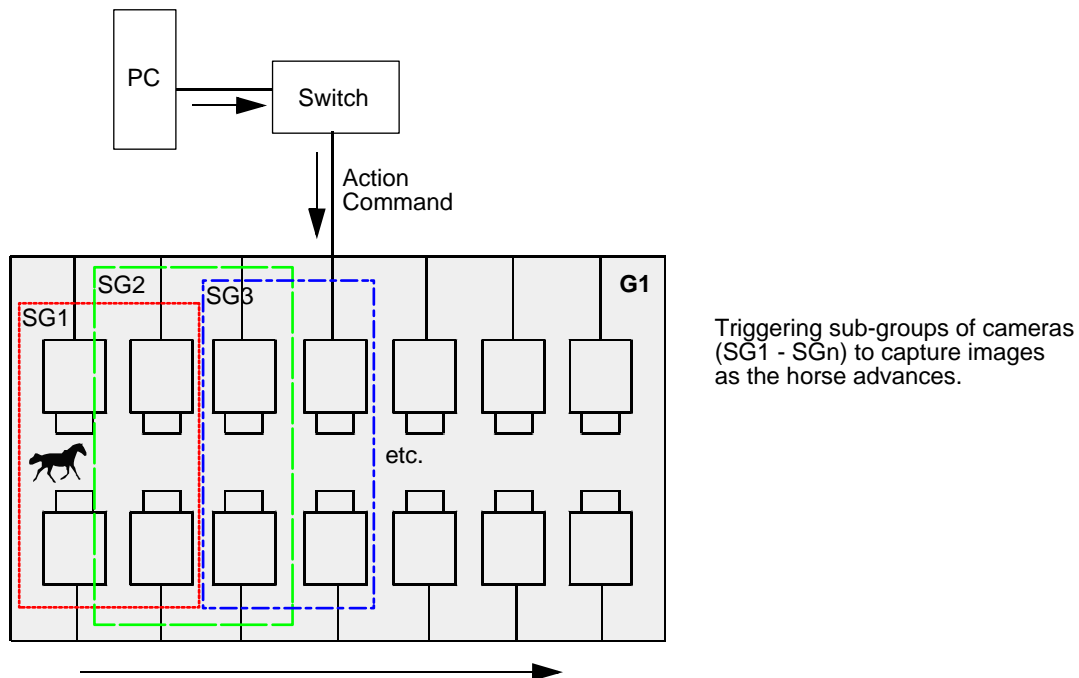

Fig. 63: Example Setup: Analyzing the Movements of a Horse
To analyze the movement of a horse, multiple cameras are installed parallel to a race track. They form a group of cameras (G1, see Fig. 63).
When the horse passes, four cameras positioned next to each other (sub-group SG1 in Fig. 63) synchronously execute an action (in this example: image acquisition).
As the horse advances, the next four cameras (sub-group SG2 in Fig. 63) synchronously capture images. One sub-group follows another in this fashion until the horse reaches the end of the race track. The resulting images can be combined and analyzed in a subsequent step.
- The group of cameras in a network segment that is addressed by the action command. In Fig. 63, this group is G1.
- The sub-groups in the group of cameras that capture images synchronously. In Fig. 63, these sub-groups are SG1, SG2, SG3, and so on.